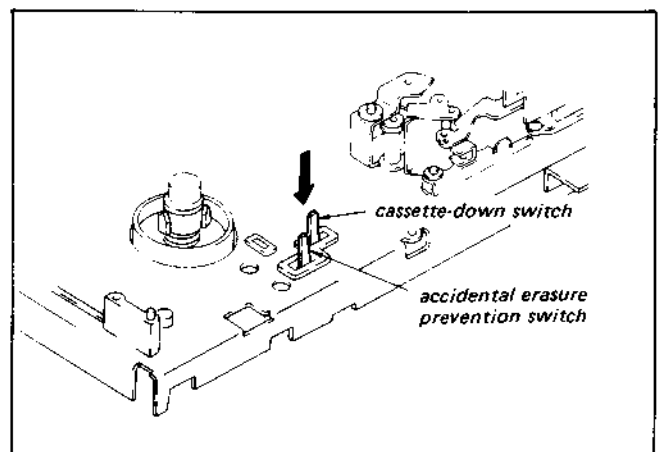

Fig. 1-2 How to put the recorder in recording mode with the FL cassette compartment removed
- 1) Thread by the procedure in 1-7-1, then press the accidental erasure prevention switch shown in Fig. 1-2.